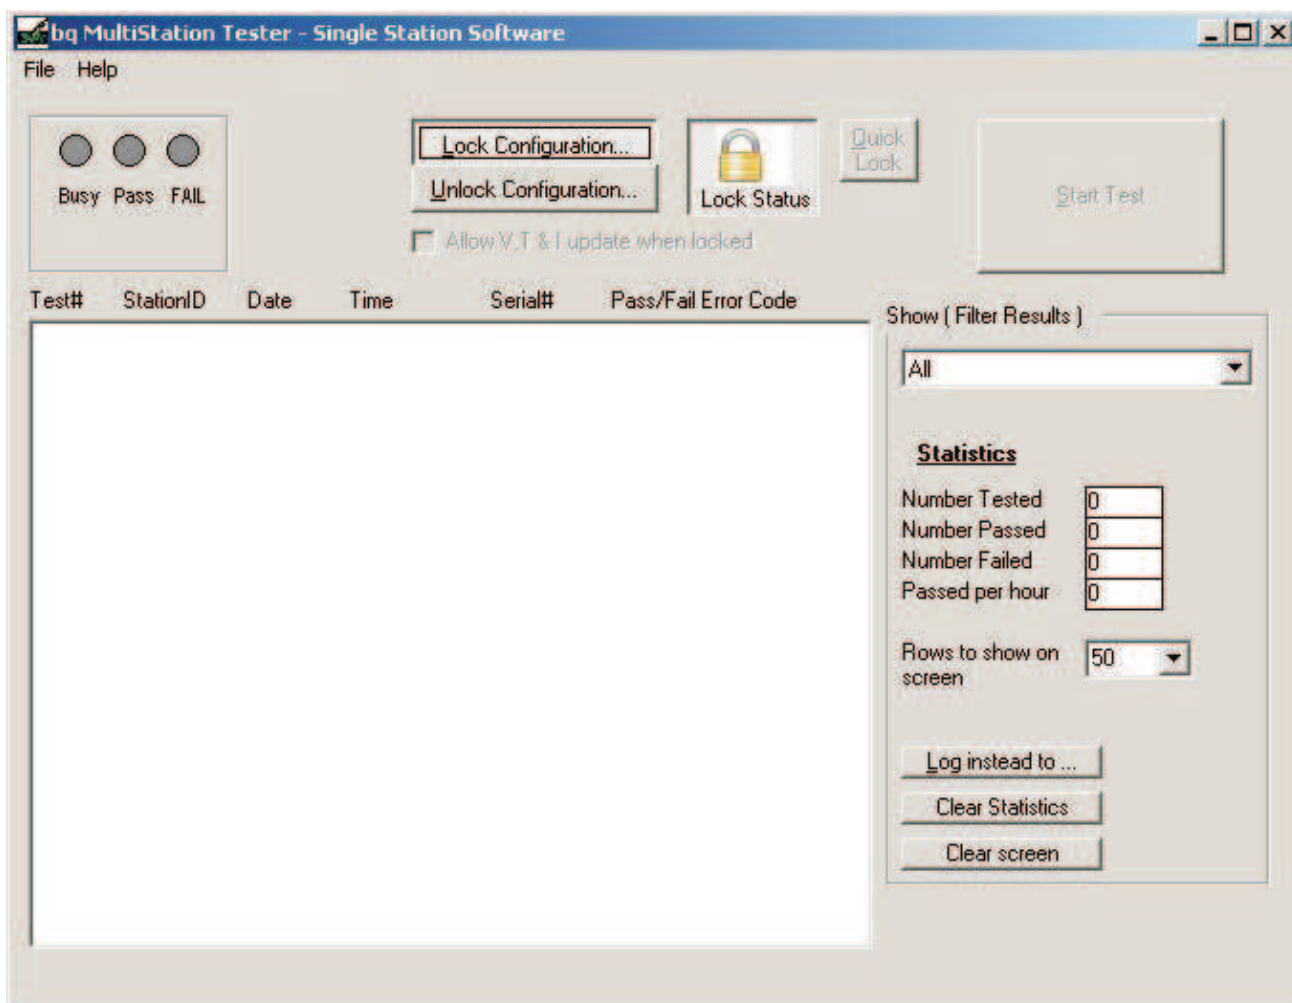
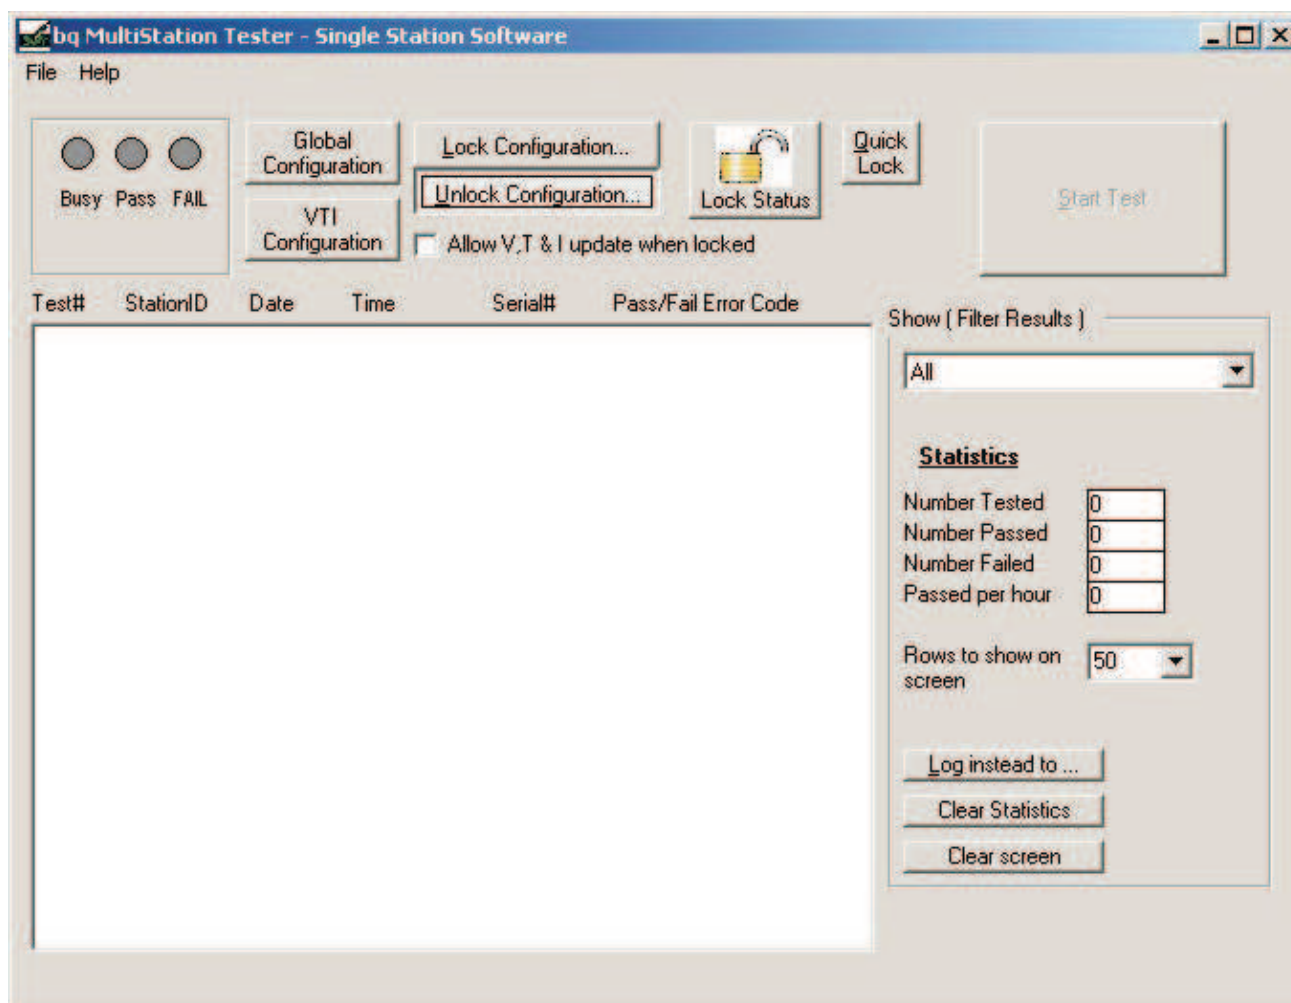

Figure 20. bqTester Main Window
Figure 21. bqTester Main Window Unlocked
24.4.147.10 Running the bqTester Software Follow all instructions in Section 1 to install the software. After installation, double-click the bqTester icon on the PC desktop or launch the bqTester program from the Start menu. The single site tester main window appears as shown in Figure 20. Press the *Unlock Configuration* button. The default password is *bq20z80*. After entering the default password, two new buttons appear on the single site tester screen as shown in Figure 21. They are Global Configuration and VTI configuration.